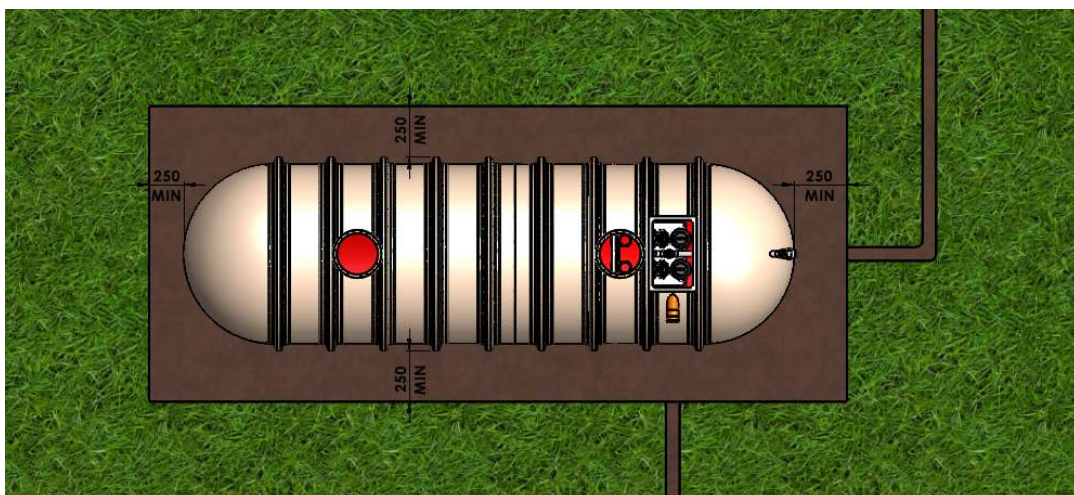

Figure 2
- 4.8. This opening must allow for a minimum of 250mm of concrete all around the chamber (**Fig 2**)